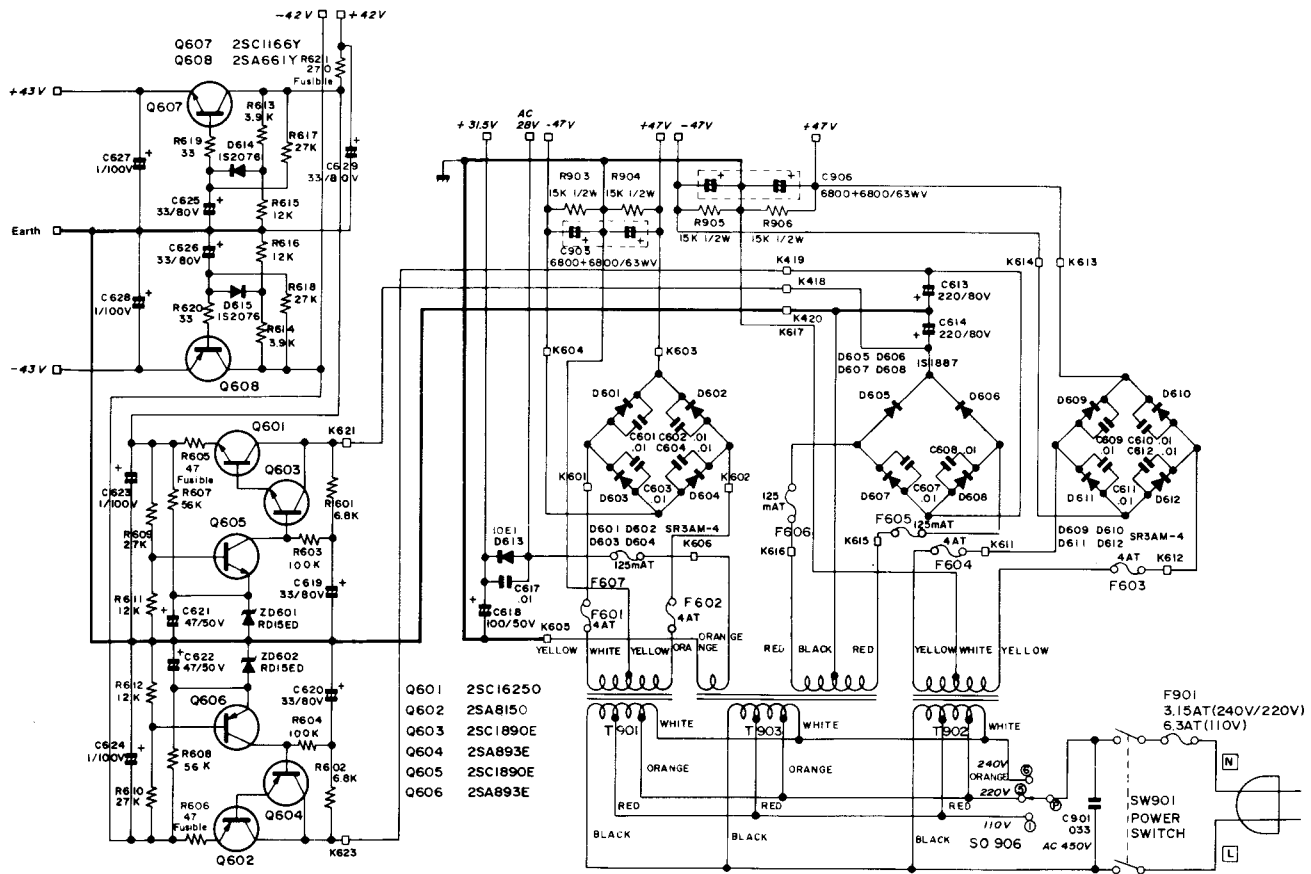

Figure 17
**POWER SUPPLY CIRCUIT** (Refer to Figure 17)